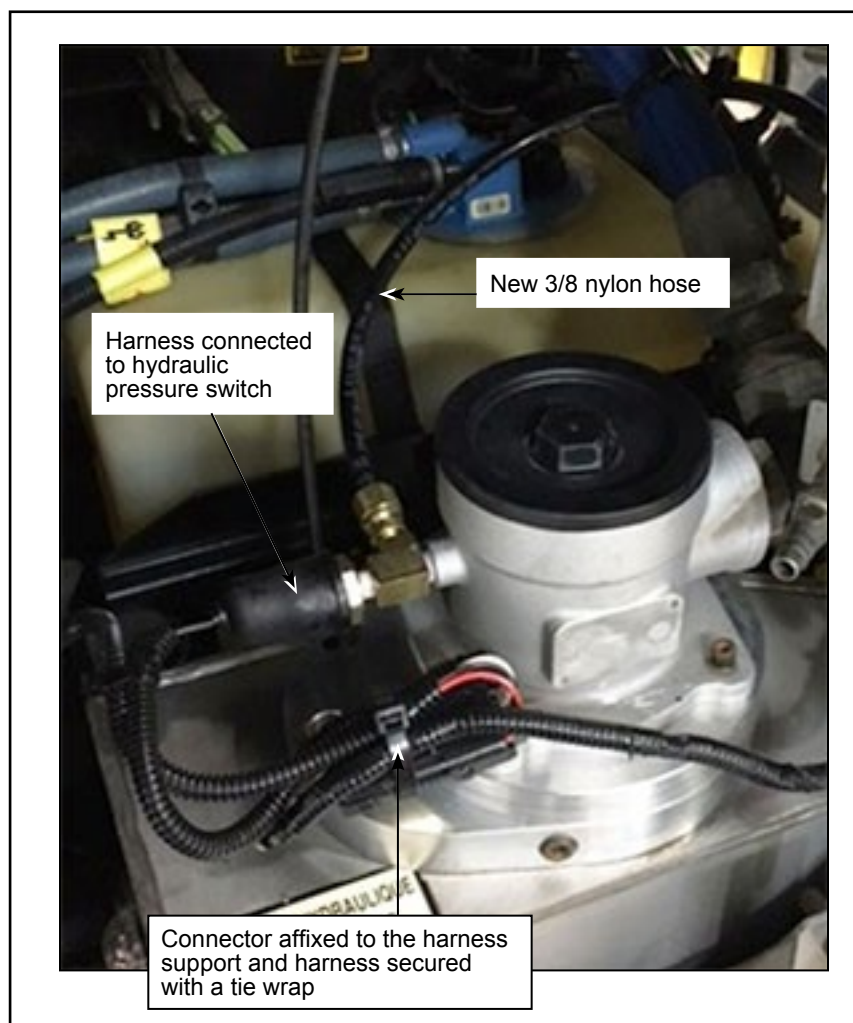

Figure 8 - Harness Installed on Filter Head
- 1.33. Install the harness support bracket on one of the filter head bolt. See Figure 8.
- 1.34. Connect the harness to the hydraulic pressure switch. See Figure 8.
- 1.35. Affix the connector to the harness support bracket and secure the harness using a tie wrap. See Figure 8.
- 1.51. Fill the tank until the level in the sight glass indicates the correct level. See Figure 8.
- 1.53. The fluid will drop significantly; fill the tank until the fluid level indicator show the correct oil level while the engine is still running in fast idle mode. See Figure 8.